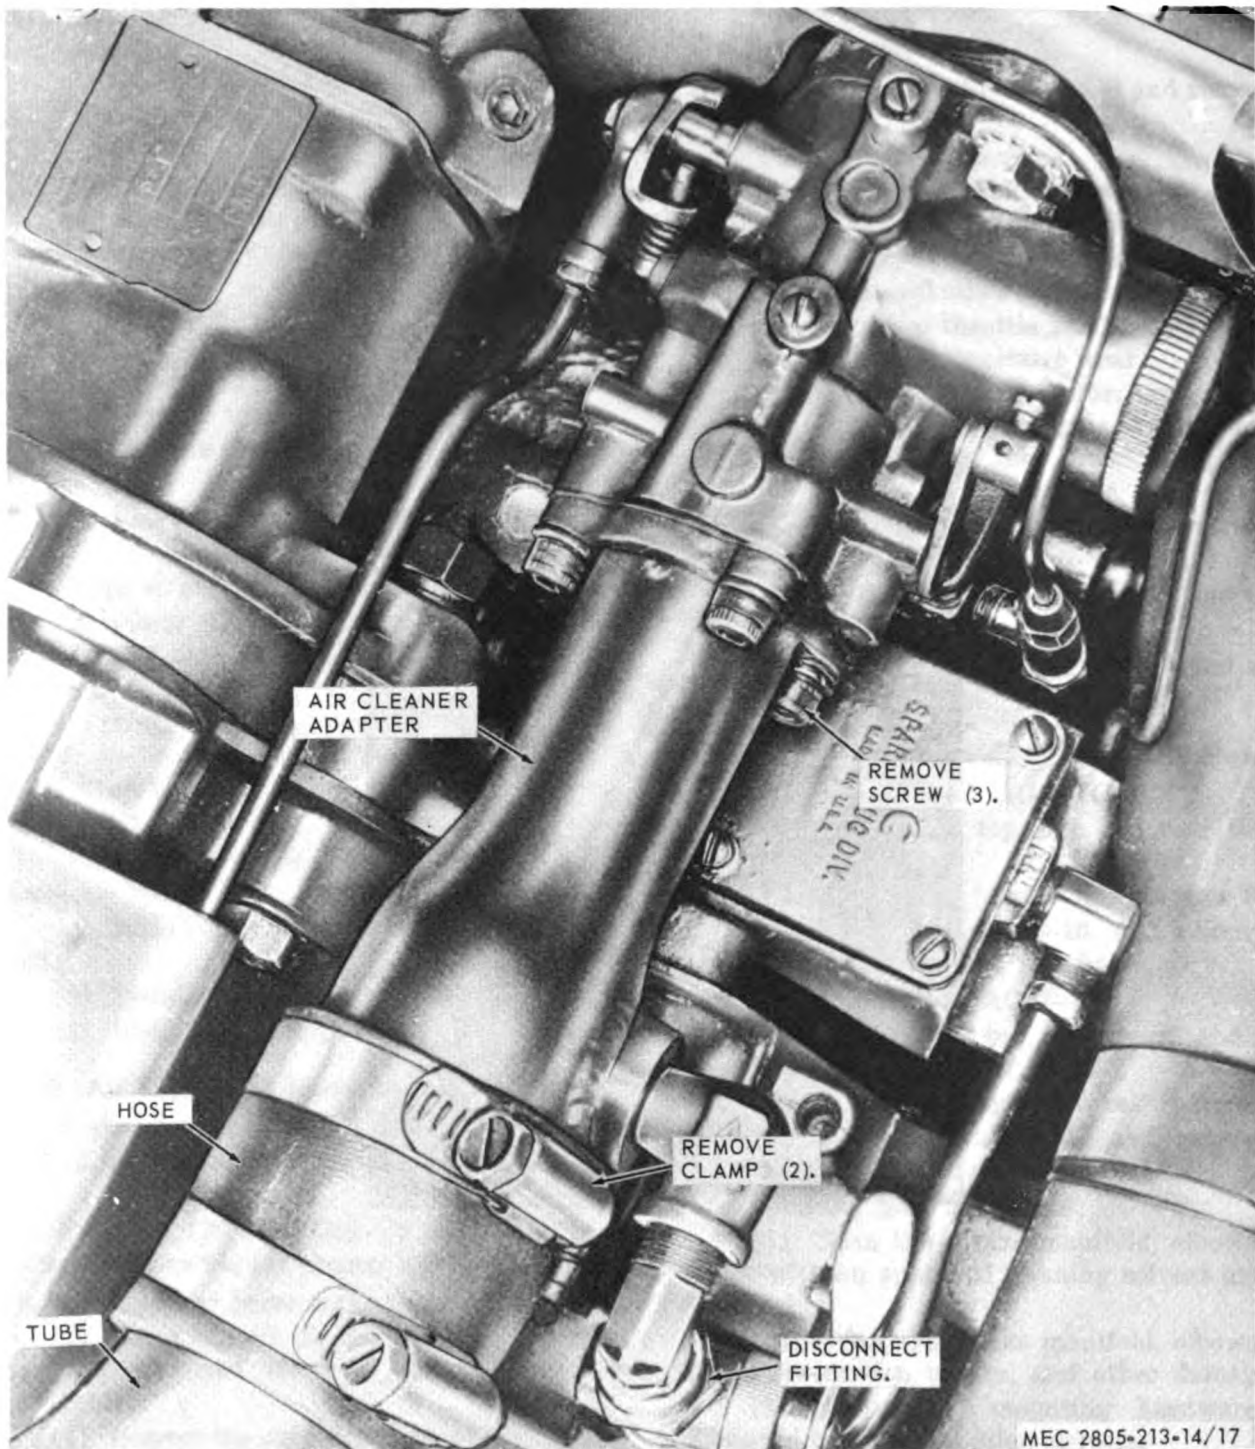

Figure 3-6. Air cleaner adapter and tube, removal and installation (Model AO42-KM).
a. Removal. (Model AO42-KM). Refer to figure 3-6 and remove the air cleaner adapter and tube.
figure 3-6 and install the air cleaner adapter and tube.